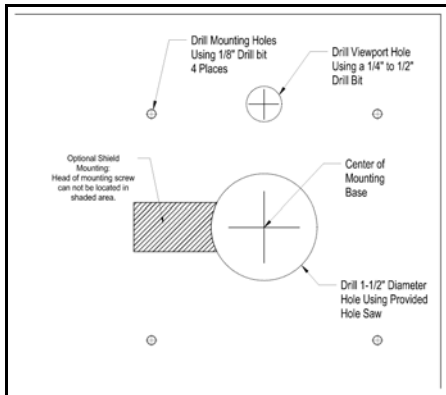

Figure 3
3. Drill 1/8" diameter mounting holes at positions indicated on template. (Refer to supplied template as shown in Figure 3)
4. Cut out the large opening (1-1/2" hole) on the template. (Refer to template as shown in Figure 3)
5. Using a 1/4" to 1/2" drill bit, drill a viewport hole as indicated on the template. (Figure 3)
- Attach the UV-Aire mounting base onto the plenum with the supplied sheet metal screws. (Refer to template as shown in Figure 3) **This must be tight in order to activate the built in safety switch.**